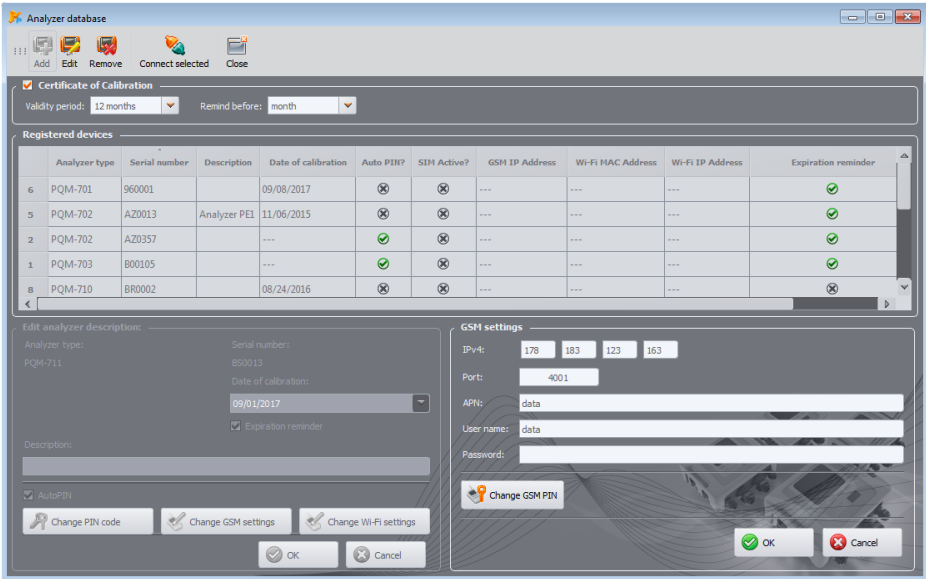

Fig. 42. Entering GSM settings in the analyzer database.
- Message "*The analyzer is not connected*" will be displayed with a panel for GSM settings in offline mode, in order to enter the IP number of the analyzer (Fig. 42).